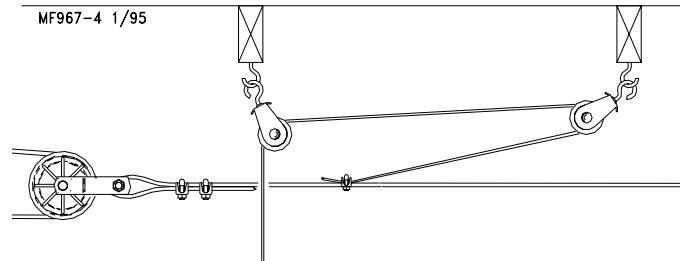

Figure 23. "Throwback" cable
3. Allow enough cable length for installation of the Adjustment Leveler. Sufficient cable is included to provide "throwbacks" on drops located beneath and near the winch. **Figure 23.** shows a "throwback" cable arrangement.